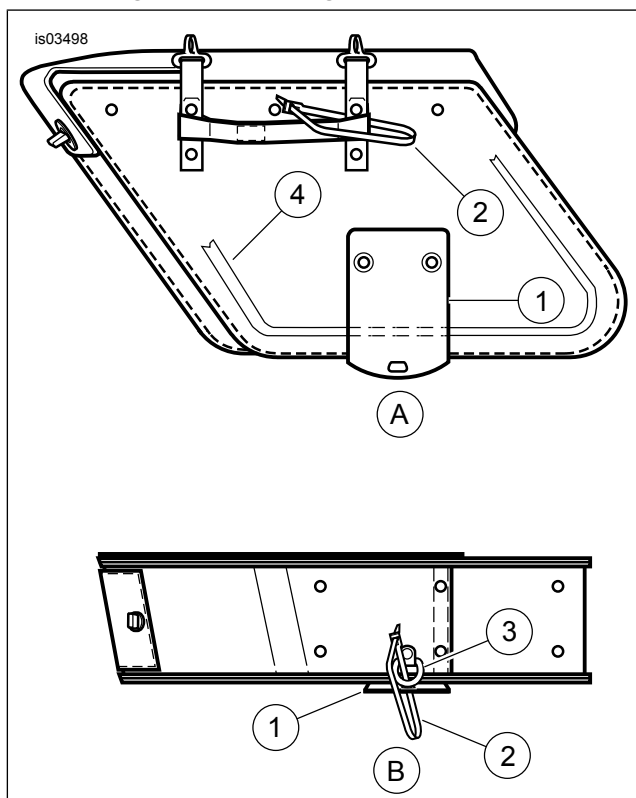

Figure 4. Saddlebag Views
2. See Figure 4, rear view. Position the plastic strip (1) behind the saddlebag support (4). The saddlebag support (4) should be positioned between the inner wall of the saddlebag and the plastic strip.
3. See Figure 4, bottom view. Thread reusable cable strap (2) through hole in plastic strip (1) and D-ring (3).
4. See Figure 4, rear view. Tighten reusable cable strap (2) to saddlebag support (4).